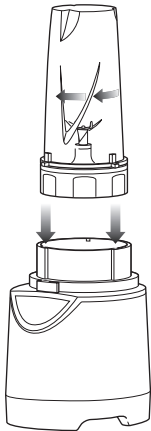

Fig. 2
- 4 Turn the single serve cup upside down and place it onto the motor base, aligning the tabs on the cup with the motor base. Turn to the left, the unit is ready for use. (Fig. 2)
- 4 Holding the desired attachment by the shaft, place it onto the drive gear inside the container. Ensure that the attachment is seated properly and is standing upright. (Fig. 2)